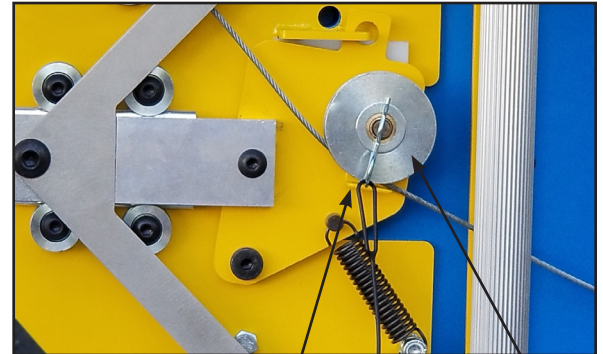

FIGURE 3 Cable Keeper A Item #7
- 7.) Remove the hairpin from the pulley wheel (item 7), releasing item 7, and string the cable around the pulley so that the cable when reinstalled will be between the pulley and "cable keeper A". At this point reinstall the pulley and the hairpin back into place - **See Figure 3**